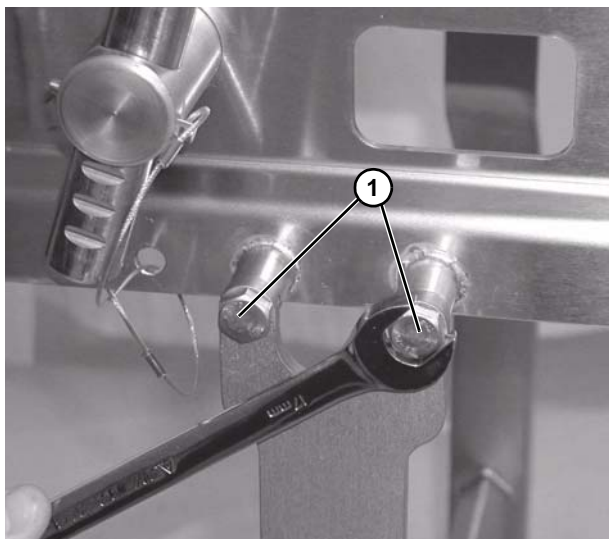

Figure 33
2. Attach the stands to the frame (**Figure 33**).
3. Tighten hex screws (Figure 33, item 1).